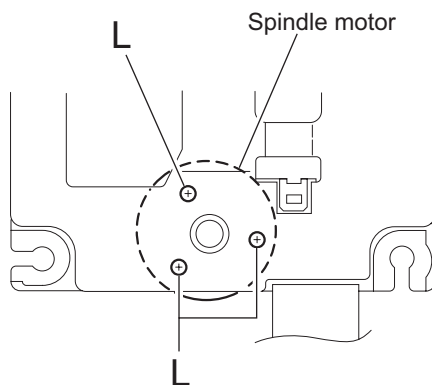

Fig.21
2.4.5 Removing the spindle motor assembly (See Fig.21~23)